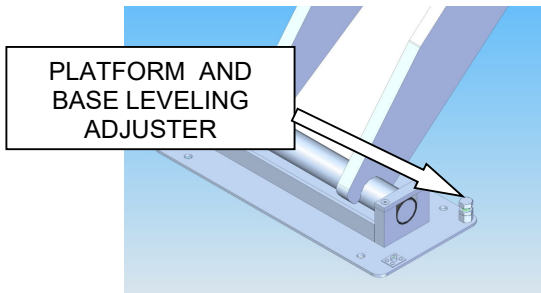

Fig. 10 – Leveling Adjusters
3. Use the LEVELING ADJUSTERS to adjust the height of the base until the surface of the runways are level, **Fig. 10**.